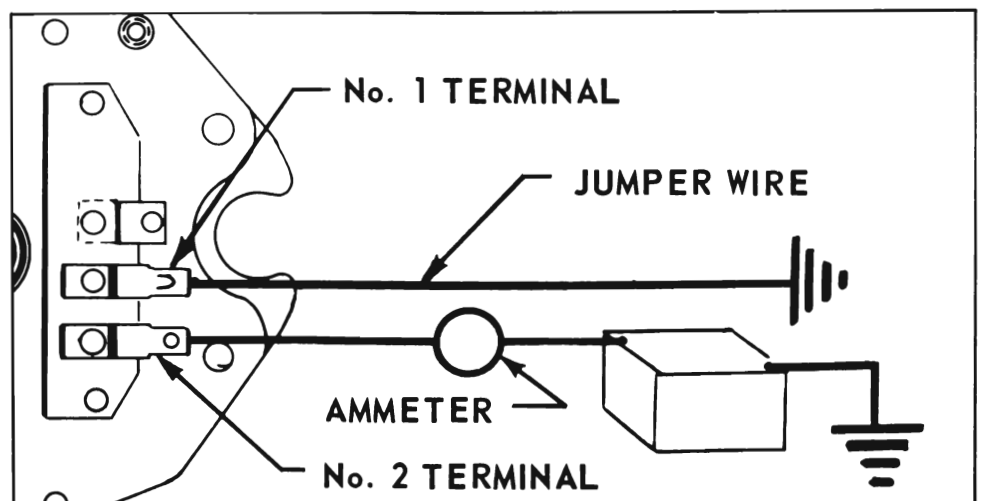
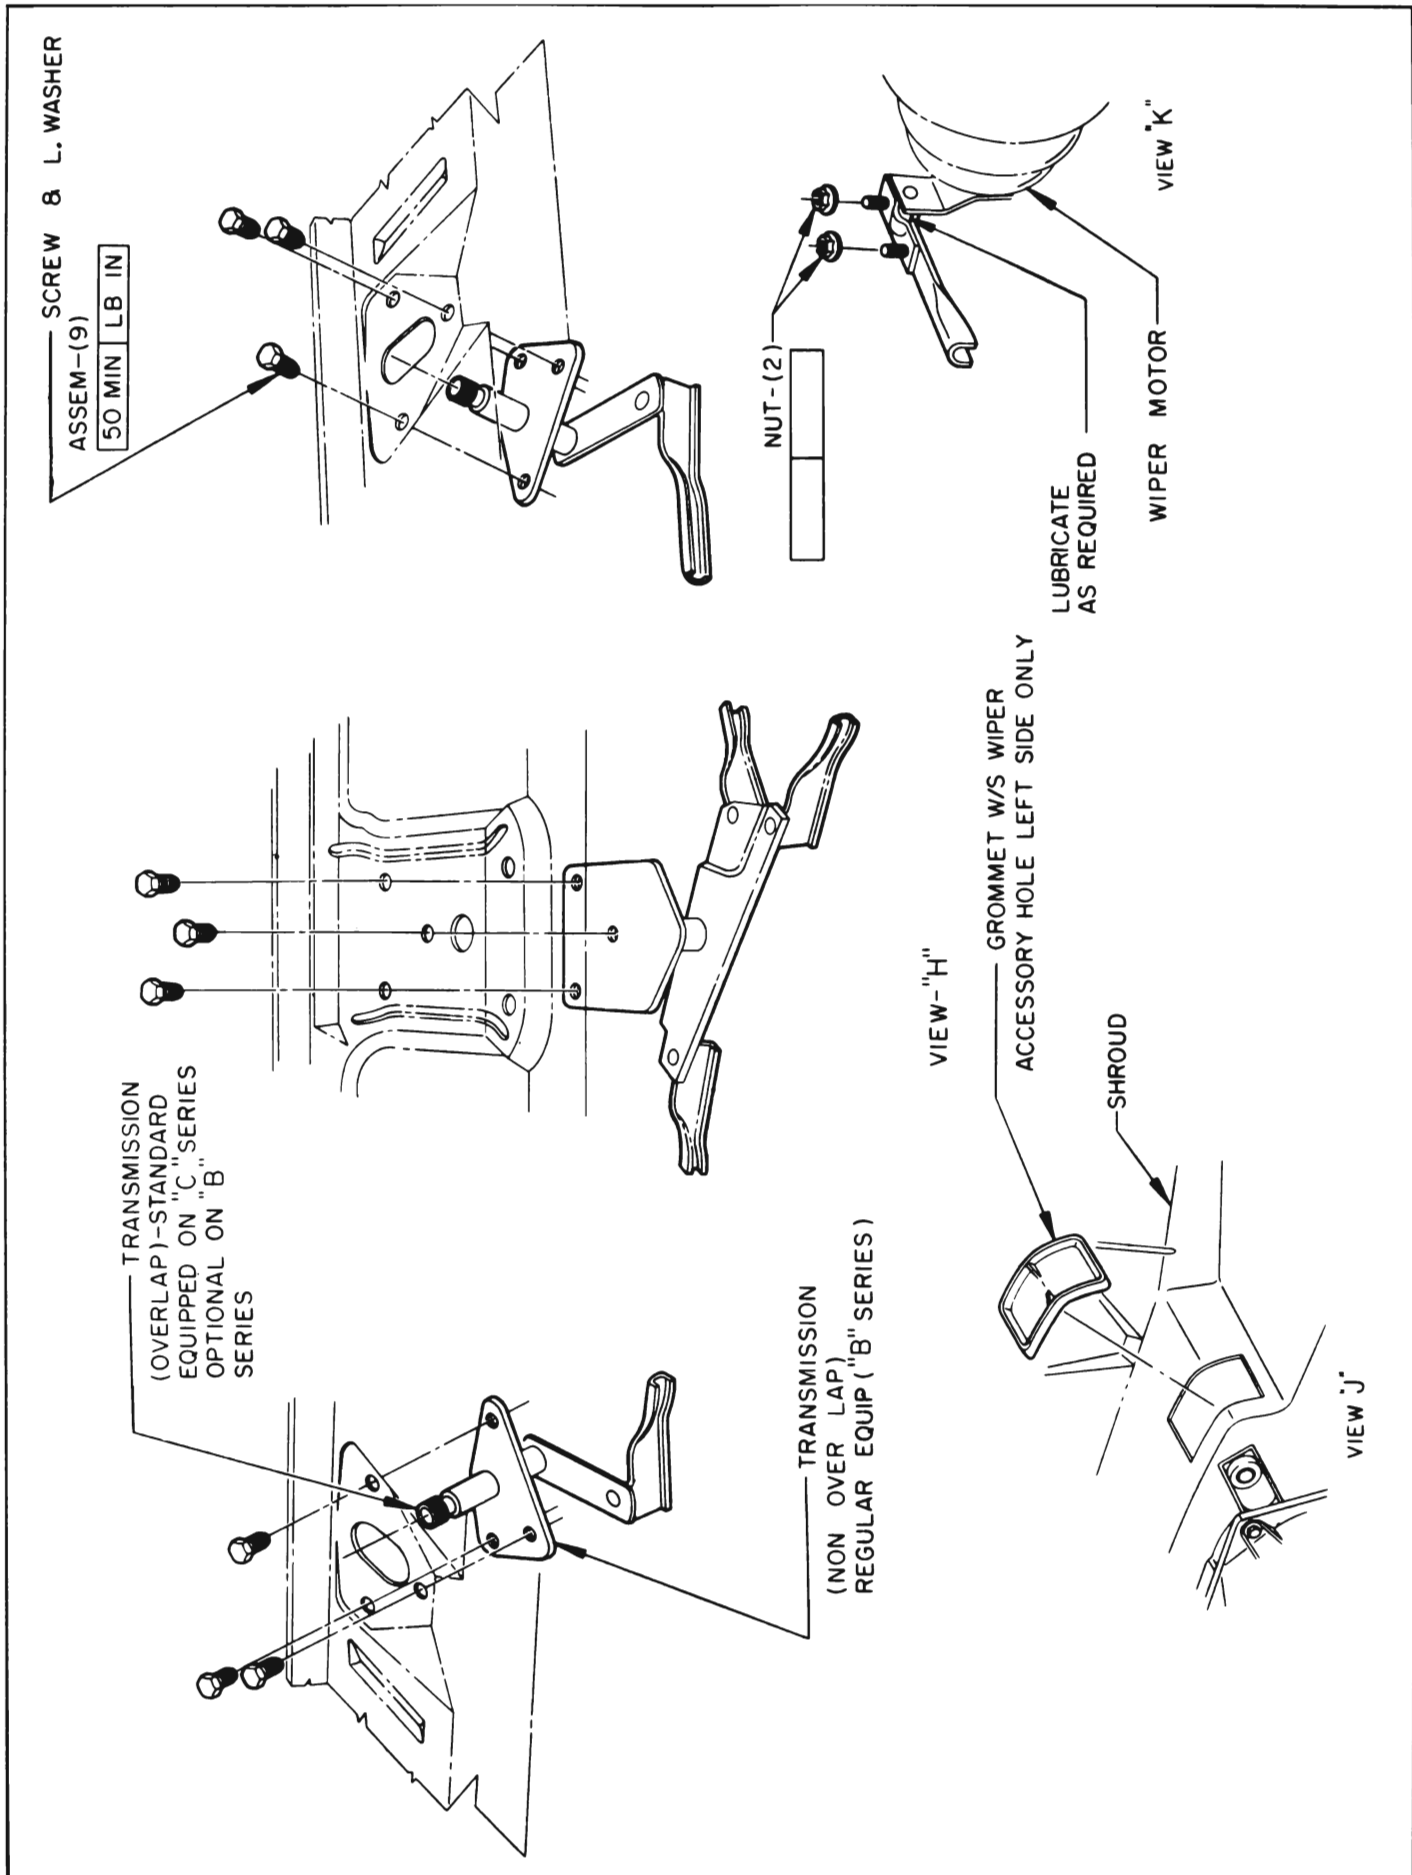

Figure 10-99—Connections to Operate Wiper Out of Car
Figure 10-101—Wiper Linkage Installation
The gear train consists of a helical gear at the end of an armature shaft. The helical gear drives an intermediate gear and pinion assembly, the pinion of which drives an output gear and shaft assembly. See Figure 10-99. The crank arm is attached to the shaft of the output gear and drives the two wiper transmission through connecting link arms. See Figure 10-129 or 131.
a park switch control the starting and stopping of the wiper. The switch mounted on the dash controls starting the wiper. The park switch, which is located in the wiper gear box (Figure 10-99), controls stopping the wiper. The operation of the park switch is explained in the following paragraph. (Refer to the wiring diagram in Figure 10-101).
(1) Make sure wiring harness is properly attached to wiper terminals and dash switch. See Figure 10-101.
(2) Make sure wiper ground strap is properly connected to wiper and car body.
(3) Make sure switch is mounted securely in dash.
(4) Check fuse.